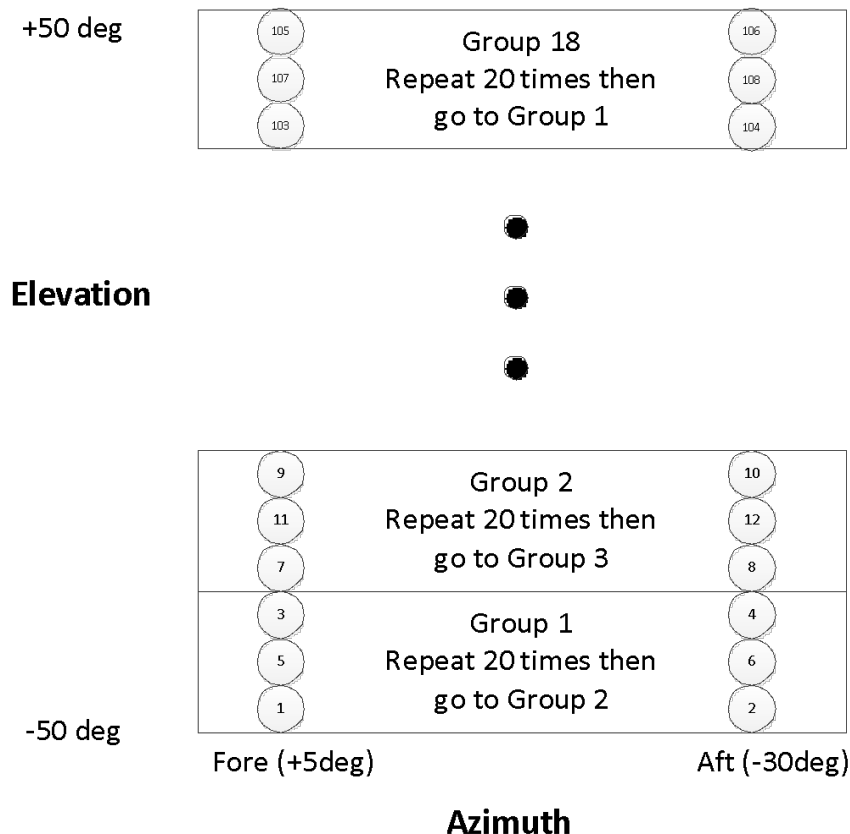

Figure 2: Illustration of multiplex scanning with 6 beams per acquisition time, or group. Reproduced from Vivekanandan et al. (2018), Figure 8.
The AOS is a tool that can be used to create simulated APAR output from a certain input dataset. The overall workflow follows that the user has access to numerical model output, typically in Weather Research and Forecast (WRF) format. Tests performed with the AOS to date have focused on idealized significant weather events using the Cloud Model 1 (CM1, Bryan and Morrison 2012) framework that outputs data into WRF format. Once the input dataset is available and ready to use, the user must determine a flight that they wish to operate in the model environment. An automated script is available to generate track leg information (discussed later in this document), but the user can also perform this task independent of the automated script. The next step is to set up the scan file with which the software will generate the simulated data. Several standard scan files are included with the software package, but the user can create their own as they see fit. Figure 1 shows a typical scan coverage for range-height indicator and surveillance scan modes. APAR uses a technique called beam multiplexing representative of the future scan controller. A pair of sequential pulses can deduce reflectivity factor (Z) and Doppler velocity (V_r). A pulse set consisting of 3 or 4 pulses in one beam direction before changing to another direction will be able to deduce polarimetric parameters (e.g., differential reflectivity, Z_{DR}). This process was illustrated for the planned APAR capabilities by Vivekanandan and Loew (2018) who proposed a scanning strategy having 6 beams per acquisition time and their Figure 8 is reproduced below in Figure 2. Each group illustrated in Figure 2 is one acquisition time period containing 6 beams with 20 pulse pairs per beam (20 revisits per acquisition time). Successive beams are at least 4.4° separated in order to suppress second trip echoes by 20 dB.